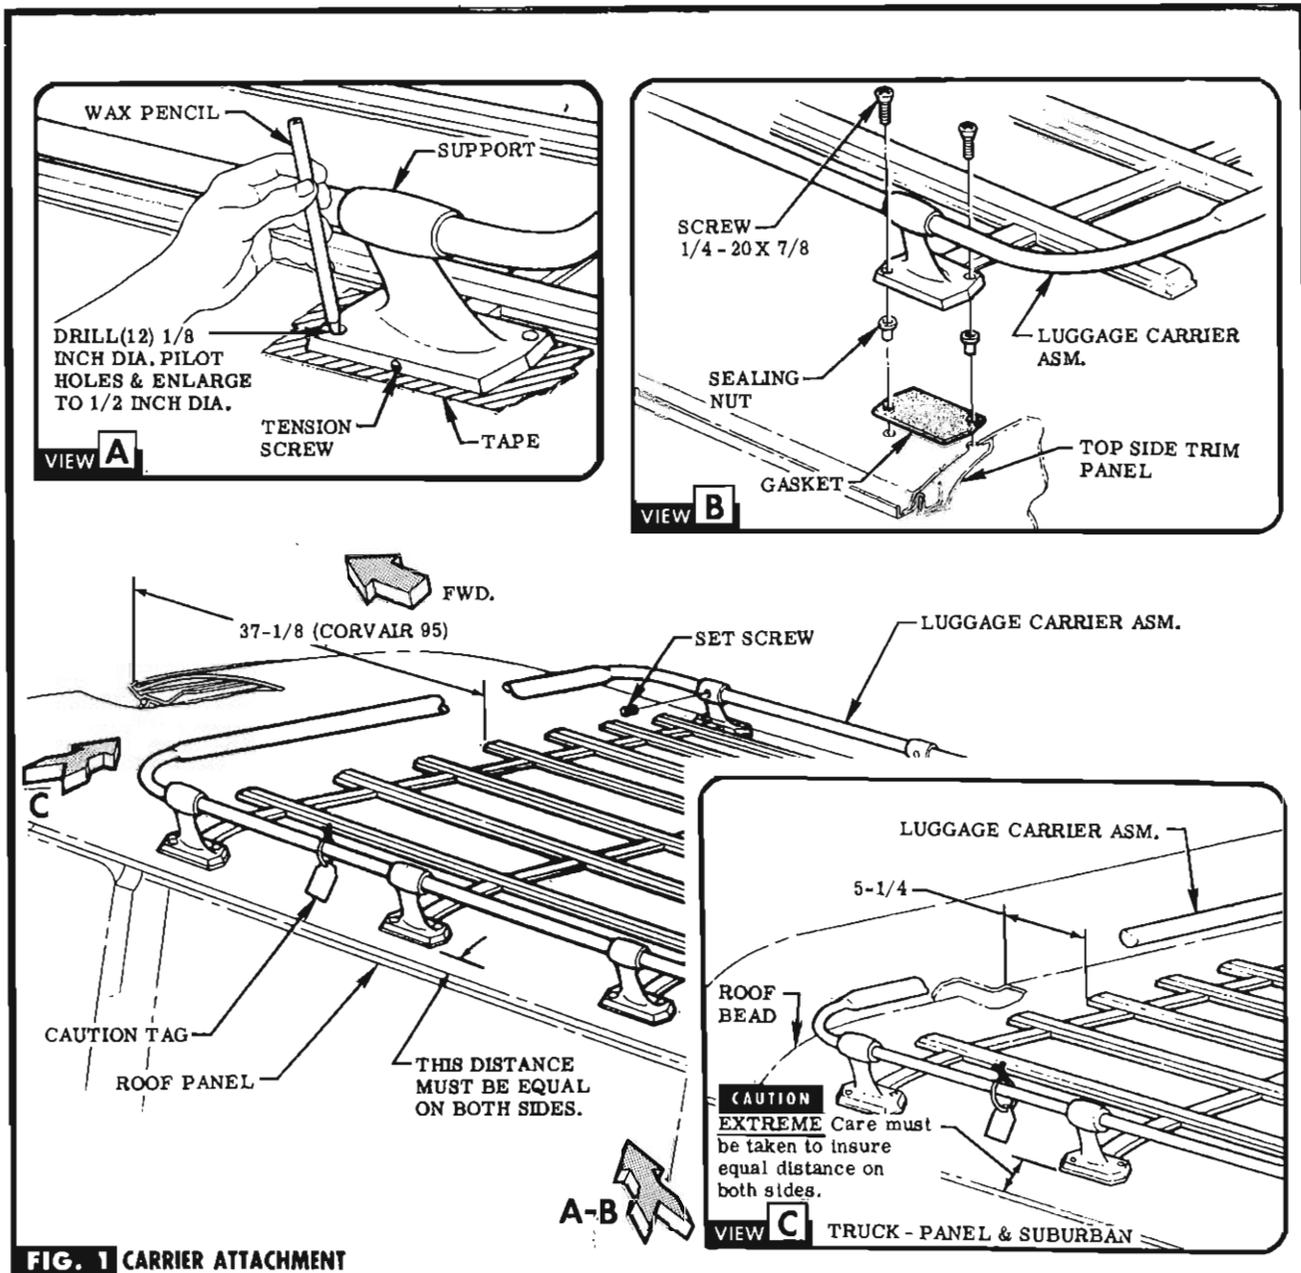

FIG. 1 CARRIER ATTACHMENT
STEP 3 LOOSEN SET SCREW IN EACH SUPPORT & ROTATE UNTIL BEST FIT IS ATTAINED ON ROOF. SEE FIG. 1.